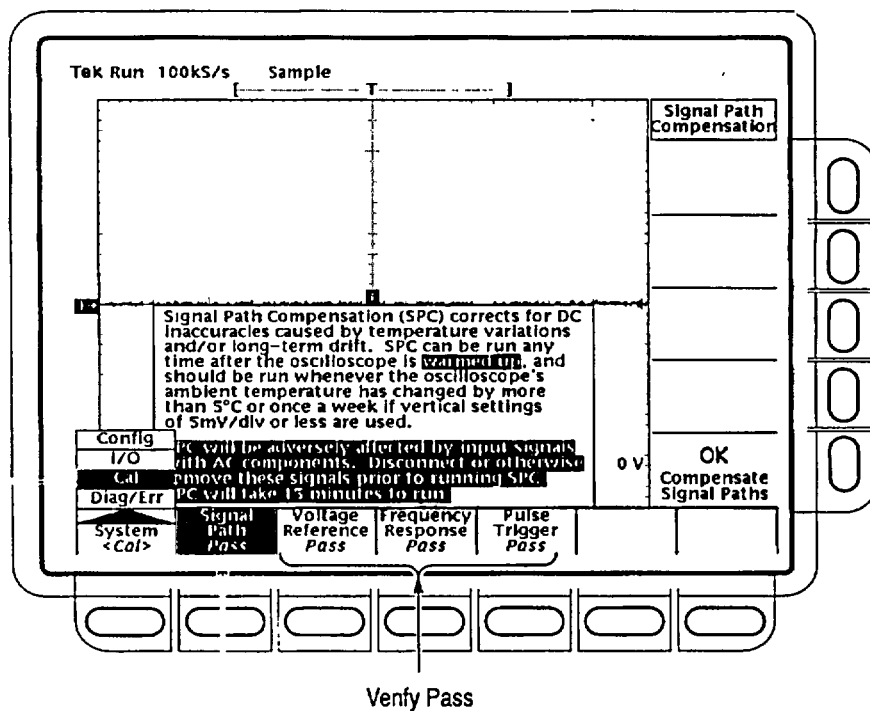

Figure 1. Pass location.
- (7) When the verification is complete, verify that no failures are found and reported on-screen.
- (8) Press front-panel **SHIFT** key.
- (9) Press front-panel **UTILITY** key.
- (10) Repeatedly press main-menu **System <config>** key until **<Cal>** is highlighted in the pop-up menu.
- (11) Verify that the word **Pass** appears in the main-menu under the following menu labels: **Voltage Reference**, **Frequency Response**, and **Pulse Trigger**. See figure 1.